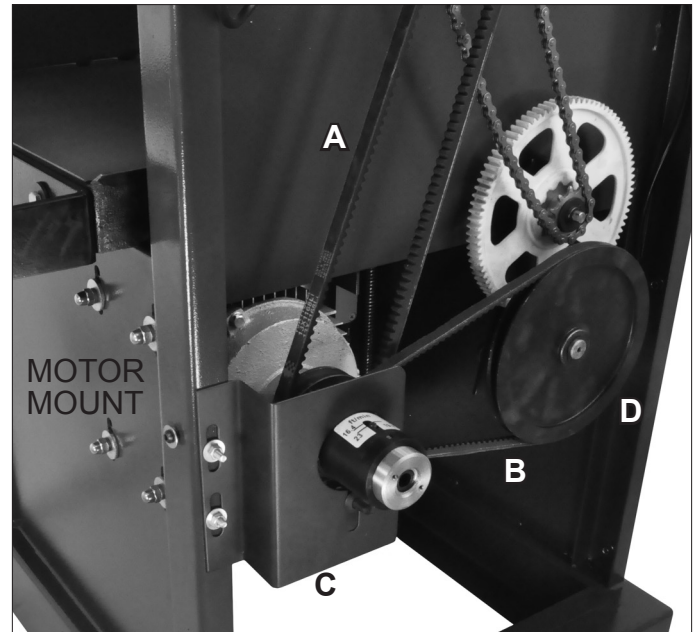

FIG. 26
1. To replace the *Cutterhead Drive Belt* (#145, FIG. 26, A), follow the same steps, #2-6 above (page 15) to remove the side panel and access the belts and pulleys. Loosen the tension until both the Cutterhead Drive Belt and the Feed Roller Belt (#152, B) can be easily removed from both their pulleys.